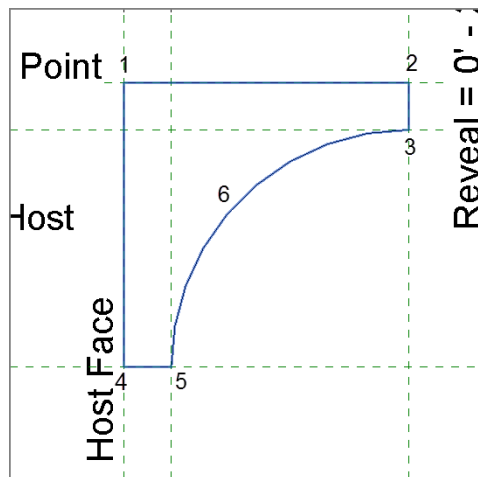

FIGURE 17.11: Drawing the boundary of the profile
2. Draw a line from the intersection labeled 1 in Figure 17.11 to the intersection labeled 2.
7. On the Draw panel, click the Start-End-Radius Arc button, and draw an arc from point 5 to point 3. When the two points are snapped in place, move your cursor to the left until the radius snaps into place (point 6). Your family should look like Figure 17.11.